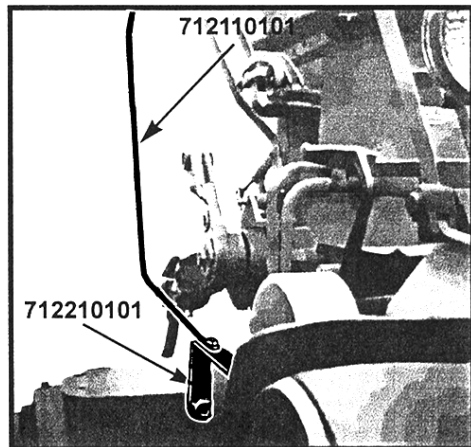

Figure 4
3. Attach # 712210101 Brake Drum Guard to the front side of the rear axle housing. Install one guard on each side of the tractor. See Figure 4